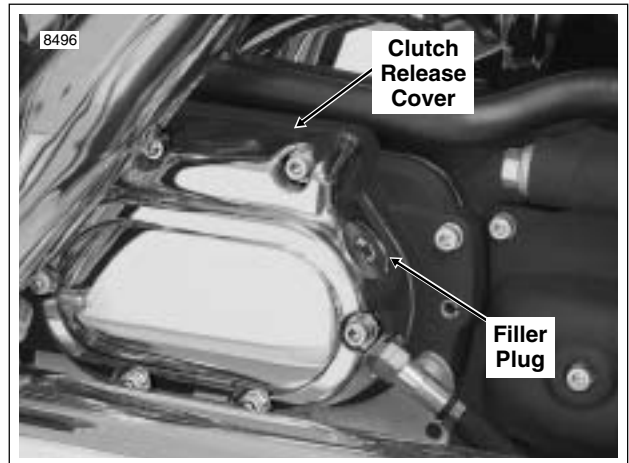
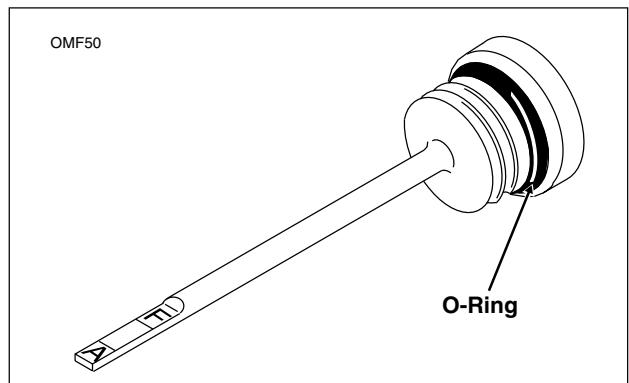

Figure 2-119. Transmission Case (Right Side)
Figure 2-120. Transmission Lubricant Filler Plug/Dipstick
18. Remove the filler plug from the clutch release cover, if installed. See Figure 2-119. Check the O-ring for tears, cuts or general deterioration. Replace as necessary. See Figure 2-120.